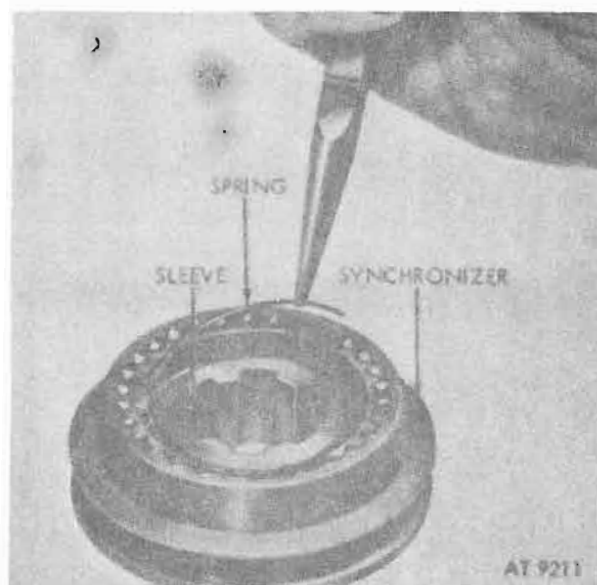

Figure 8-78. Synchronizer sleeve retaining springs.
a. Using needle nosed pliers remove large springs securing inserts from front and rear side of synchronizer hub (fig. 8-78).